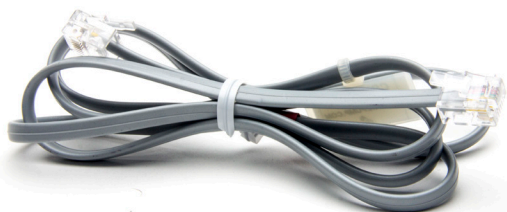
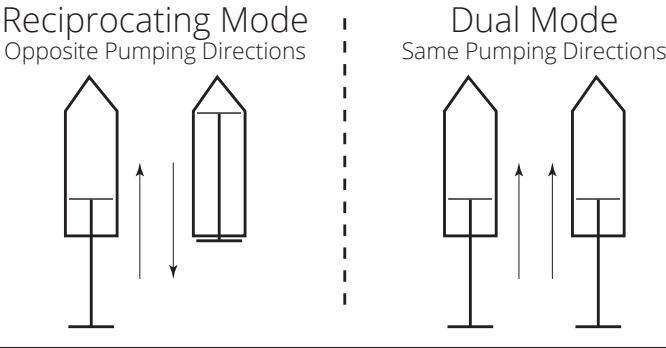

Fig. 1—(Left) Network cable (7' or 25') with RJ-11 connectors on both ends.
Fig. 3—Two modes of dual pump operations
- (1) Secondary pump adapter (Fig. 3)
- (2) Network cable, 7' (Fig. 1).
- Attach either end of the other “Network Cable” (Fig. 1) to the “Secondary Pump Adapter (Fig. 3) RJ-11 connector.